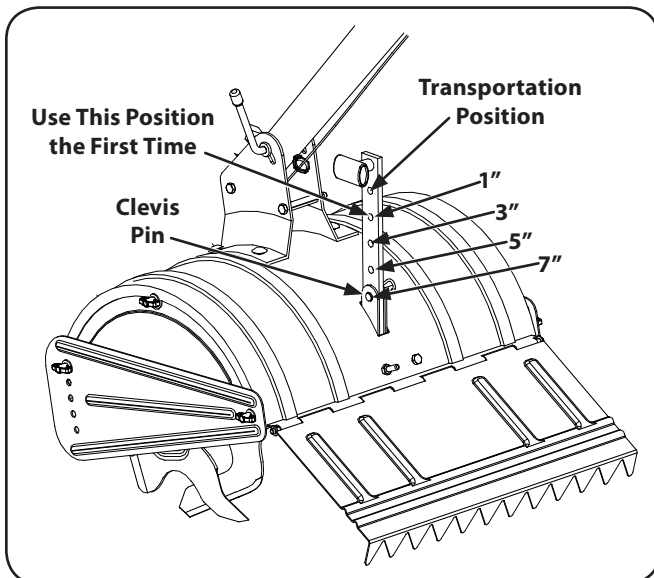

Figure 5-1
1. When using the tiller for the first time, use the second adjustment hole from the top (1" of tilling depth). See Fig. 5-1.
6. To adjust the depth stake, remove the clevis pin and hairpin clip. Move the depth stake to the desired setting and secure with the clevis pin and hairpin clip. See Fig. 5-1.